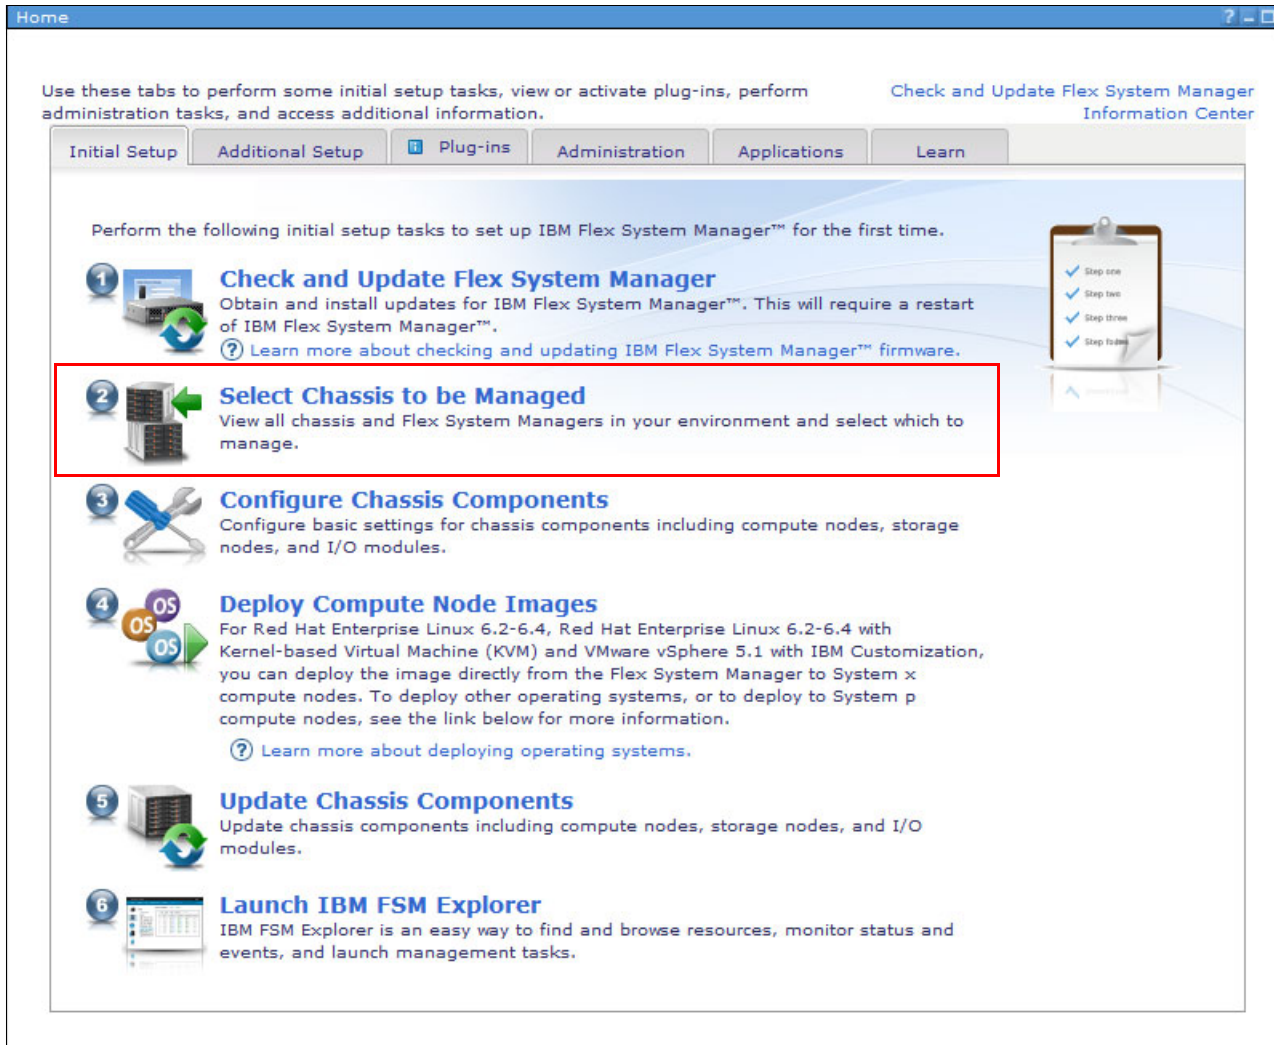

Figure 6-22 FSM Initial Setup tab
1. From the Initial Setup tab in the Home window, click the **Select Chassis to be Managed** link, as shown in Figure 6-22.